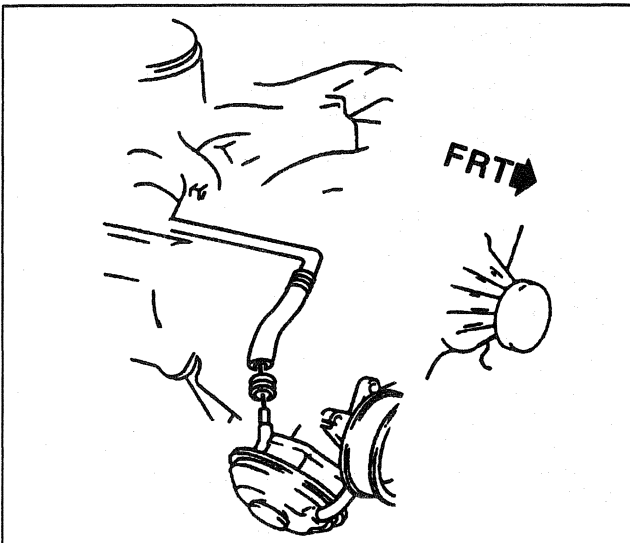

Figure 4—Vacuum Pump Hose
- 2. Vacuum hose off the vacuum pipe leaving the hose attached to the pump (Figure 4).
2. Vacuum hose to engine vacuum pipe (Figure 4).